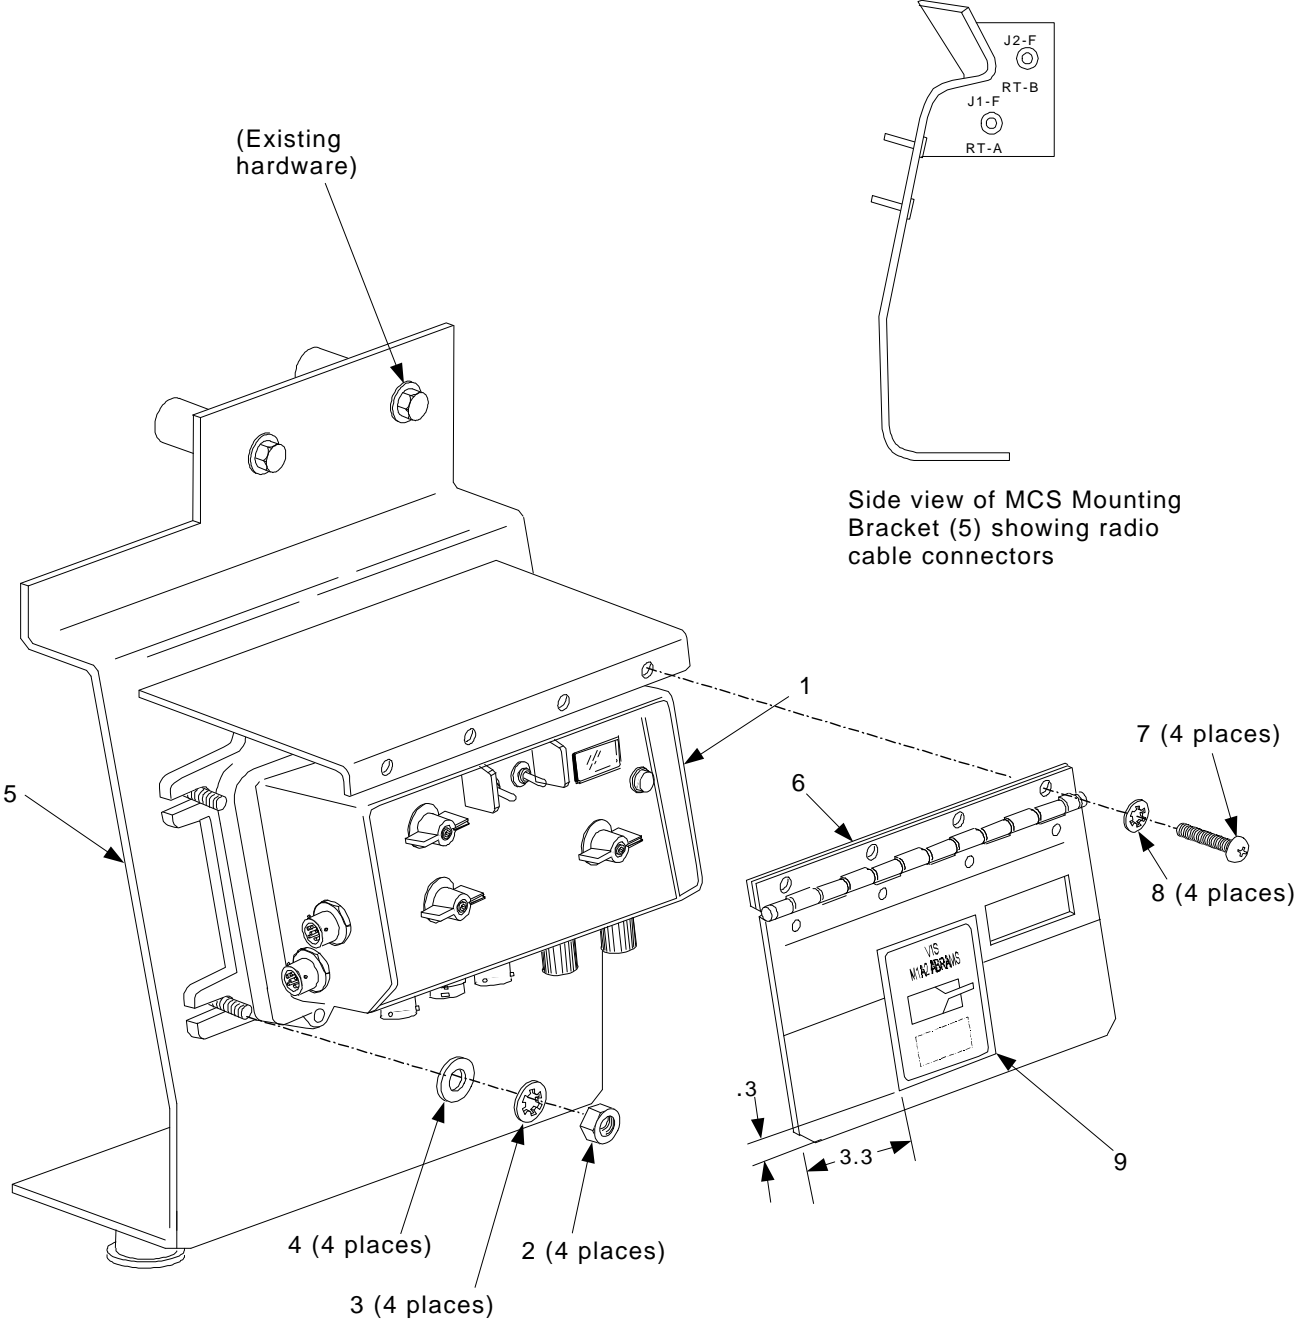

Figure 4-3. MCS Installation
- a. Install and secure the MCS Mounting Bracket (5) to existing standoffs using existing hardware. While attaching the MCS mounting bracket use caution not to damage radio cable connectors against rear wall of turret. Transfer cables attached to back of previous mounting bracket to back of new MCS mounting bracket. Tag RF cables prior to removing.
- b. Install and secure the MCS (1) to MCS mounting bracket (5) as far to the right as possible. Secure using Items 2, 3 and 4 from Table 4-1 in the sequence(s) shown in Figure 4-3 and the following tools:
- c. Install and secure MCS Cover Assembly (6) using items 7 and 8 from Table 4-1 in the sequence(s) shown in Figure 4-3 and the following tools
- d. Place the M1A2 decal (Item 9), on the MCS Cover Assembly (6) as shown in Figure 4-3.